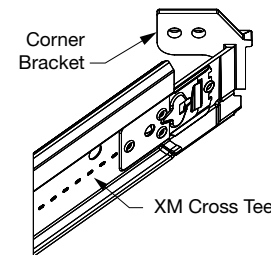

Fig 30
1. Connect the XM end details of the Corner Brackets with the XM end detail of the XM Cross Tees (**Fig 30**).